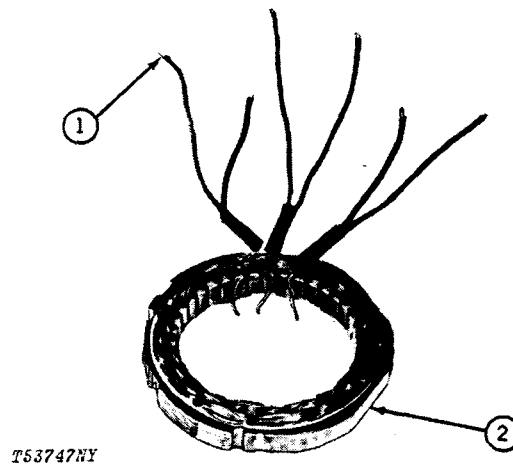

Fig. 39-Grounded Stator Winding Test Points
Check for a grounded winding by connecting ohmmeter probes to one stator lead (1, Fig. 39) and to the stator frame (2). The ohmmeter reading should be infinite.